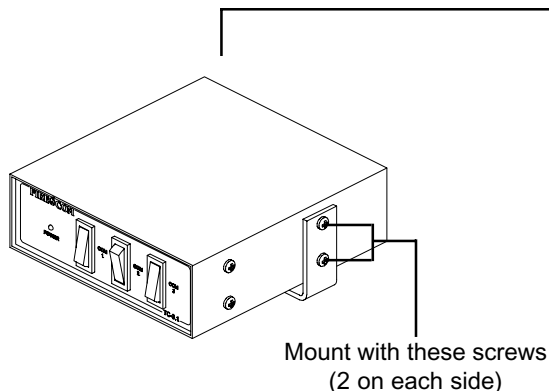

FIGURE 5
4. Remove the 4 screws (2 on each side) closest to the rear of the Tri-Com and mount the Tri-Com on the mounting bracket with the 4 screws (Figure 5).